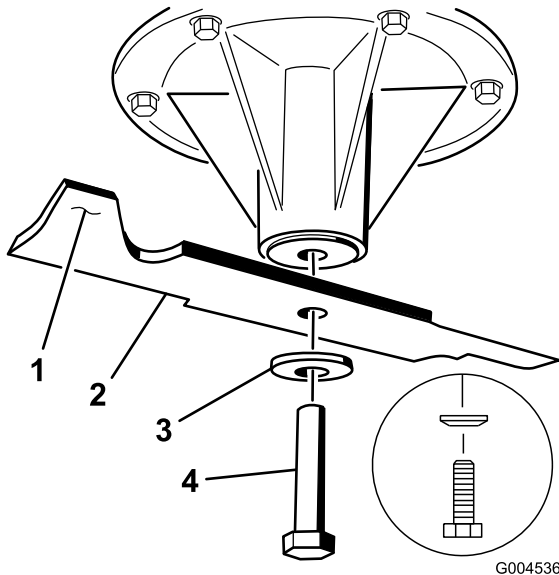

Figure 85
1. Install the blade onto the spindle shaft (Figure 85).
2. Install the spring disk and blade bolt. The spring disk cone must be installed toward the bolt head (Figure 85). Torque the blade bolt to 85-110 ft-lb (115-150 N-m).